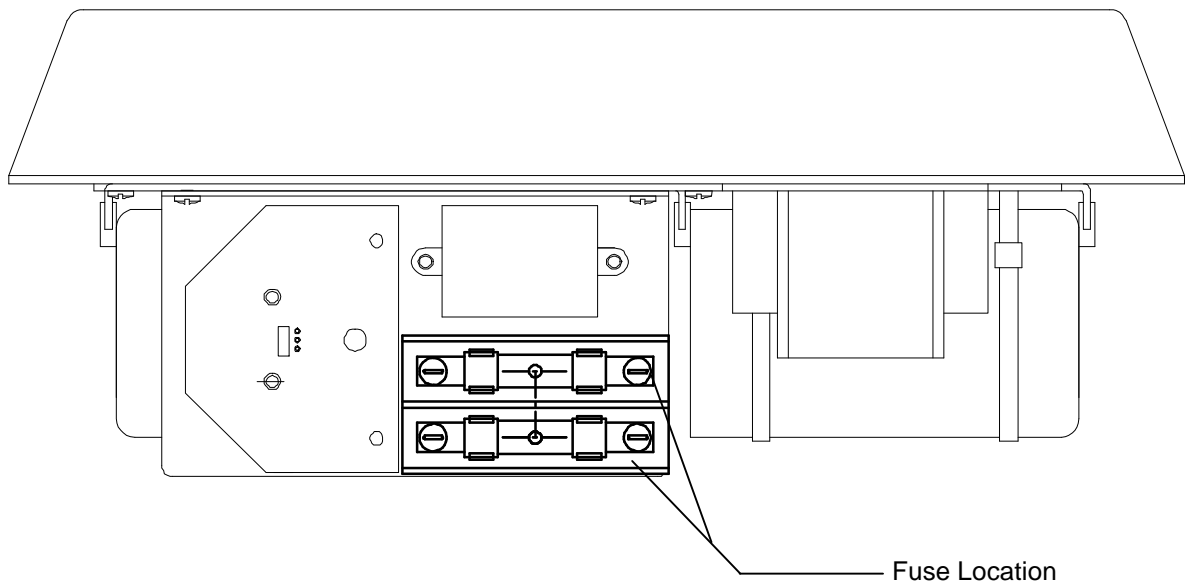
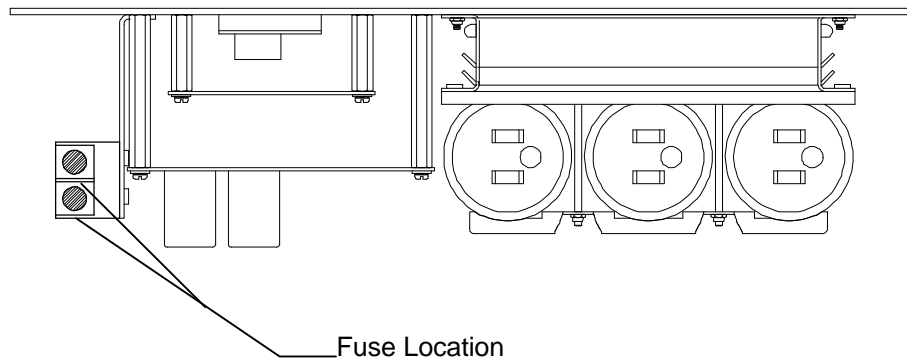

Figure 9-2: BITE 2 transmitter secondary fuses (front view)
Figure 9-3: BITE 2P transmitter secondary fuses (front view)
The output of the **transmitter** is double pole fused with two 15 ATM, 600 V type fuses. These secondary fuses are installed to protect the operator from possible shock and to protect the BITE 2/2P circuitry in the event of catastrophic component failure. The secondary fuses are mounted on the bottom base panel internal to the BITE 2 **transmitter** as in Figure 9-2. See Figure 9-3 for the BITE 2P configuration. The fuses are coordinated for fast response to a dc inrush from the battery under test.
5. Locate the two-pole fuse block on the front plate of the transmitter chassis (see Figure 9-2 shown earlier in this chapter). The fuses should be marked 15 ATM or 15 KLM.
5. Locate the two-pole fuse block on the front plate of the transmitter chassis (see Figure 9-2 shown earlier in this chapter. The fuses should be marked 15 ATM or 15 KLM.